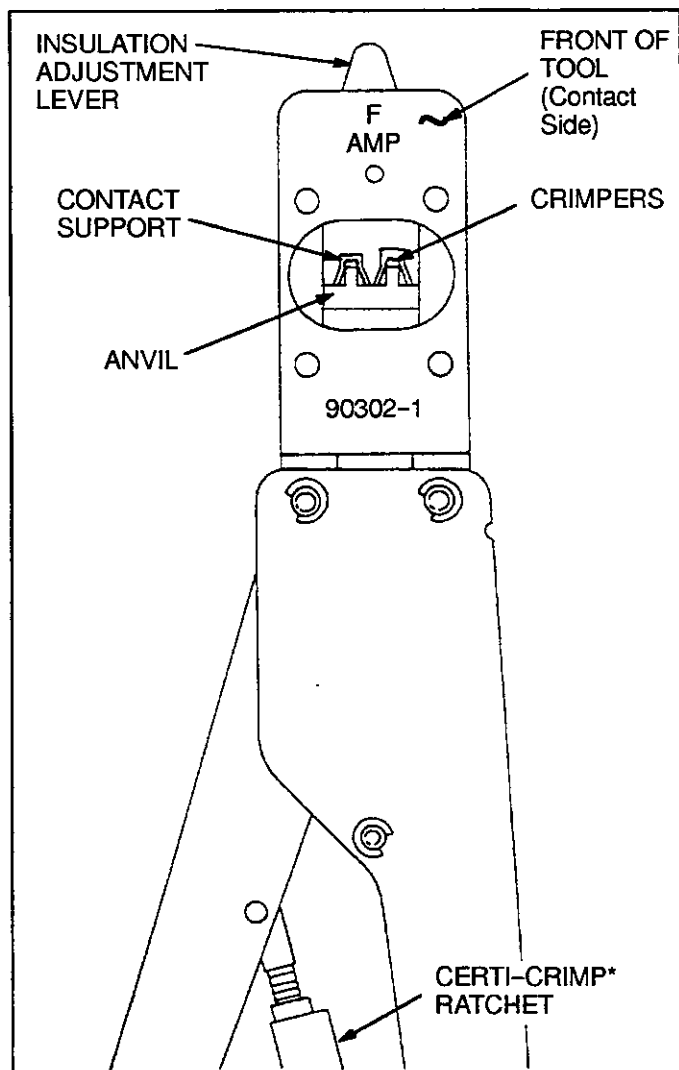

Fig. 1
AMP Hand Crimping Tool 90302-1 (see Figure 1) is designed to crimp the AMPLIMITE* High Density size 20 loose piece (LP) pin and socket contacts listed in Figure 2. Read these instructions thoroughly before crimping any contacts.